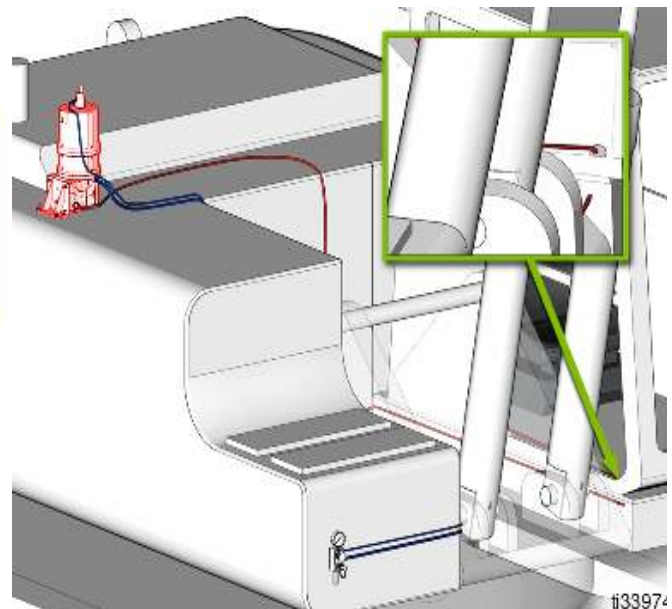

FIG. 15
- The deck plate that surrounds the cab is the preferred installation location (FIG. 15). The deck plate is a non-critical component and drilling through the deck plate is generally acceptable by most manufacturers. However, if this location is not acceptable due to durability or space constraints, identify an alternate location around the cab such as below the ladder, in the engine compartment or on the frame.